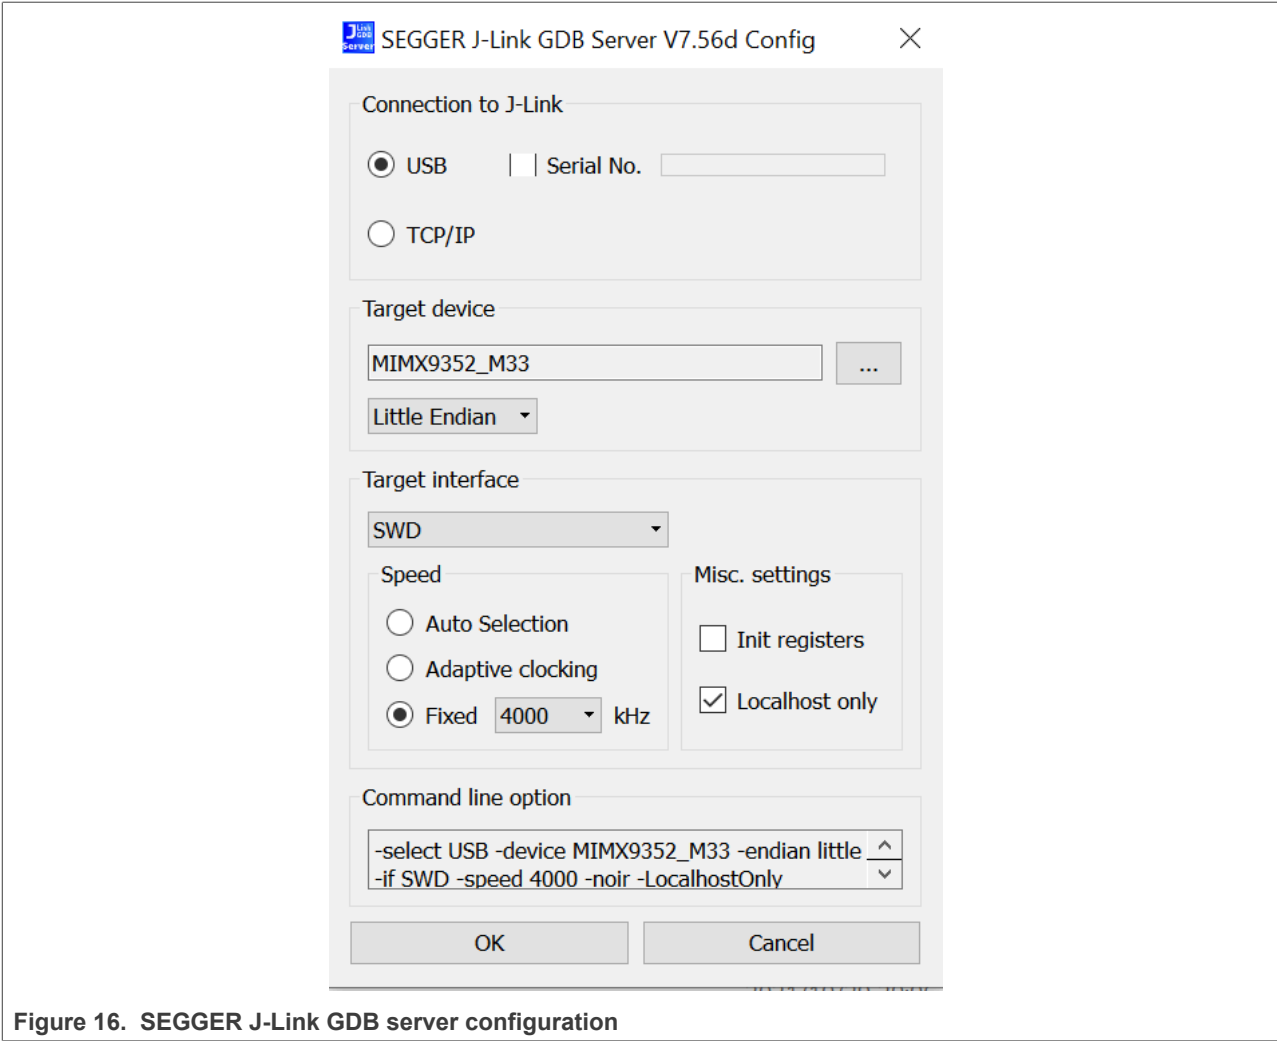

Figure 16. SEGGER J-Link GDB server configuration
7. Modify the settings as shown in Figure 16. The target device selection chosen for this example is MIMX9352_M33.